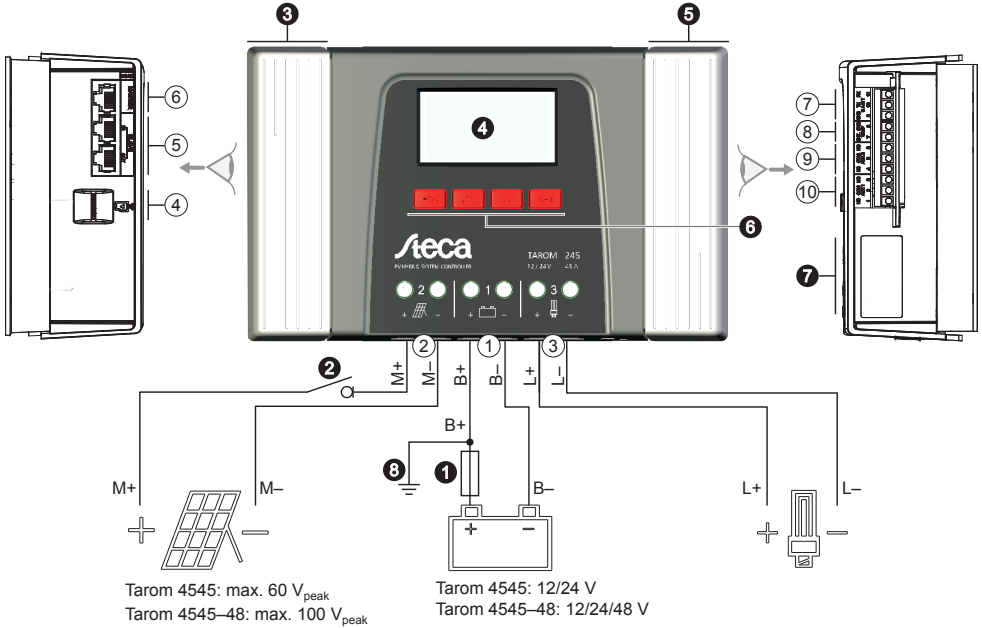

Fig. 1: Overview of casing and connections
9.2.1 RJ45 socket for Master bus (Ⓣ in Fig. 1)
9.2.2 RJ45 socket for Slave bus (Ⓢ in Fig. 1)
9.2.3 Slot for microSD card (④ in Fig. 1)
9.2.4 Relay outputs AUX 1, AUX 2 (⑨, ⑩ in Fig. 1)